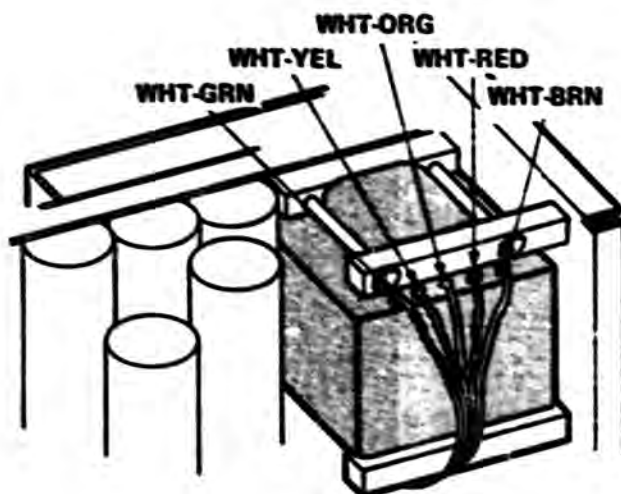

FIG. 1 POWER TRANSFORMER
- () 4. Solder the Power Supply wires to T1701 terminals as follows: (see Fig. 1)